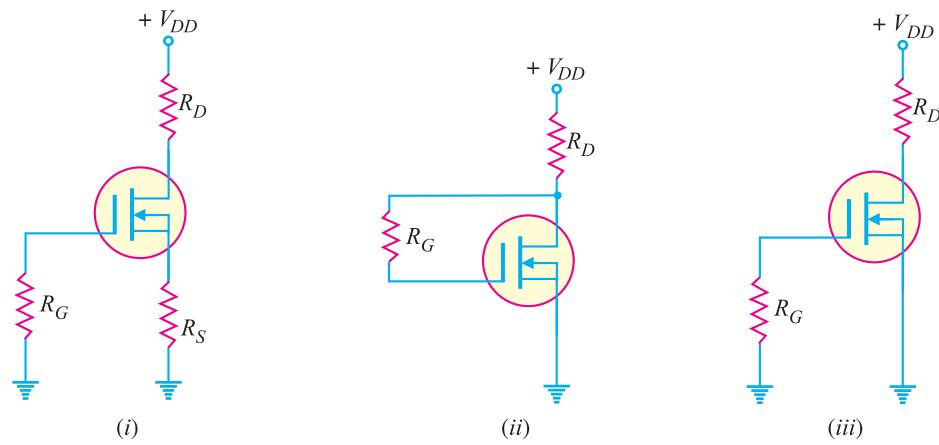

Fig. 19.66
8. Determine in which mode each *D-MOSFET* in Fig. 19.66 is biased. [(i) Depletion (ii) Enhancement (iii) Zero bias]